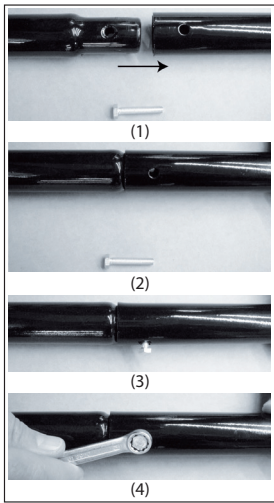

Fig. 03
- At first remove the hexagon screw SW10 (Fig.03(1)) at the side of the lower lever rod and put the upper and lower lever rod together before securing the connection with the hexagon screw (Fig.03(2/3/4)).